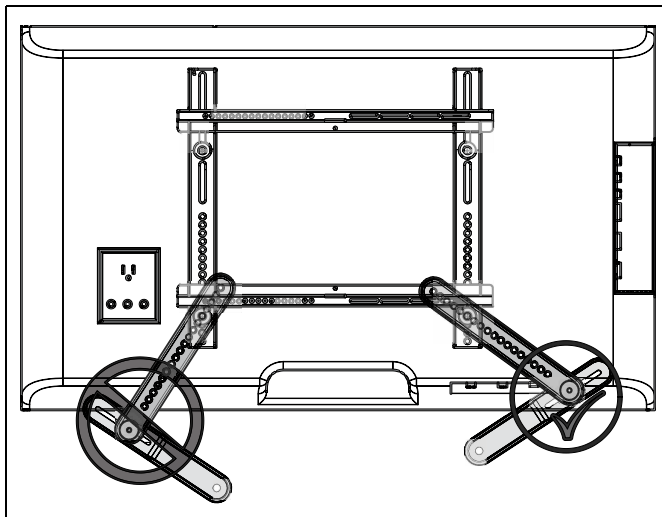

Figure 10
CAUTION: The middle connection of soundbar brackets (A) must not extend beyond the edge of the display. (See Figure 10)